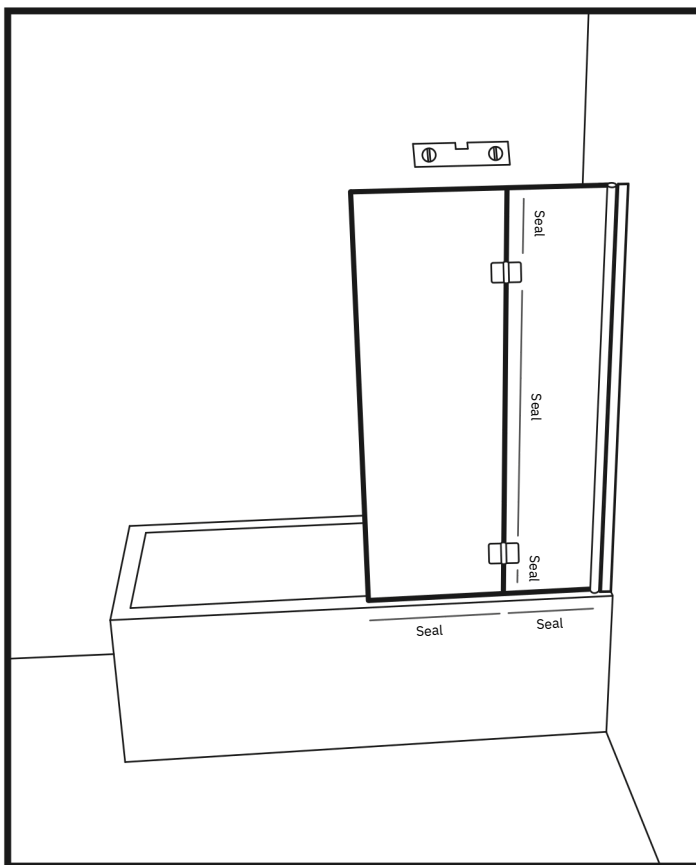

Figure 11
21. Make sure that the top edge of the glasses is level and the sides between the glasses are parallel. There should be a gap of approximately 5 mm between the glasses for installing the gaskets. (Fig 11)